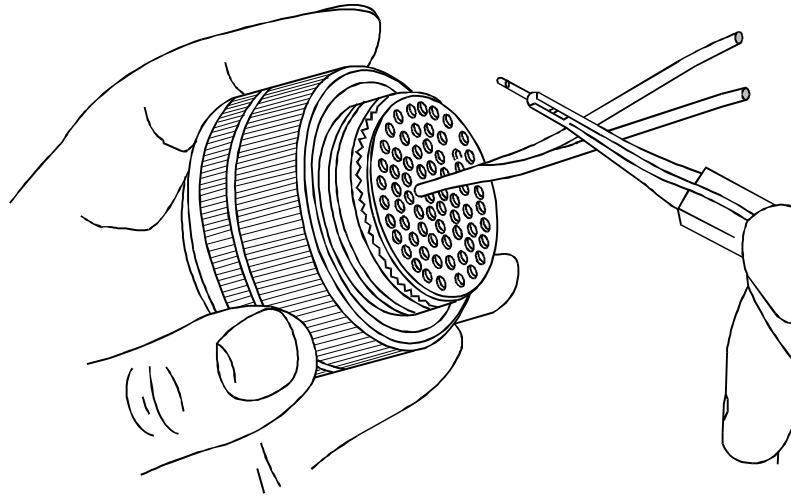

Figure 1-47
5. Grasp the wire and removal tool and pull the contact from the rear of the connector. Figure 1-47 illustrates this procedure.